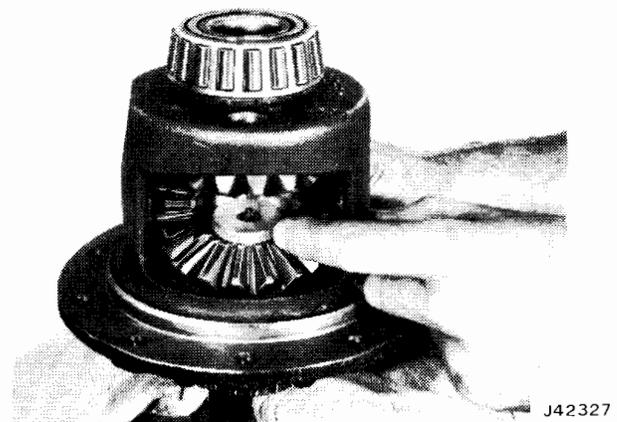

Fig. 10-67 Installing Step Plate
- (11) Install step plate in lower differential side gear (fig. 10-67).